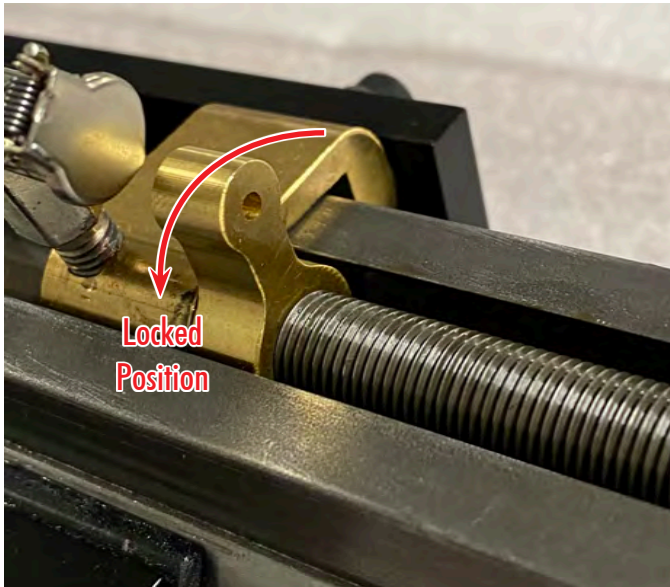

FIGURE 42
- Now pull the lock lever towards the center of the leadscrew. If the space between the lock and the saddle nut were correct when the leadscrew began threading into the saddle nut, the lock should bottom out on the top of the saddle nut and lock the leadscrew so it can't turn (see Figure 42).